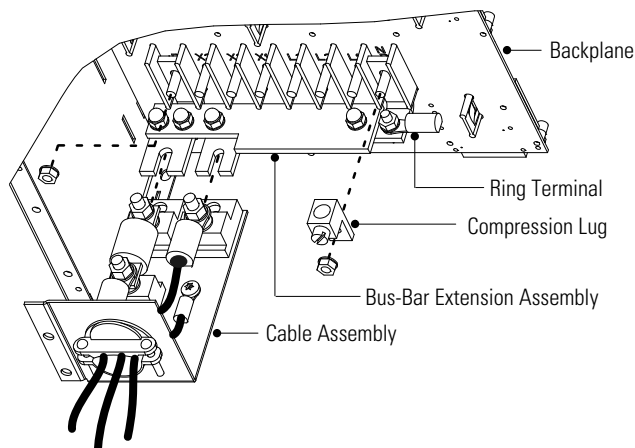

Figure 44. Bus-Bar Extension Installation
6. Remove the nuts holding the +DC and the –DC bus bars to the backplane as shown in Figure 44. Remove the ring terminal and the compression lug from the –DC bolt.
7. Position the bus-bar extension assembly onto the +DC and –DC bolts as shown in Figure 44. Replace the compression lug onto the –DC bolt of the bus-bar extension assembly. Secure the assembly by replacing the two nuts removed in Step 6.
10. Loosen the three large nuts on the end of the cable assembly (see Figure 44).